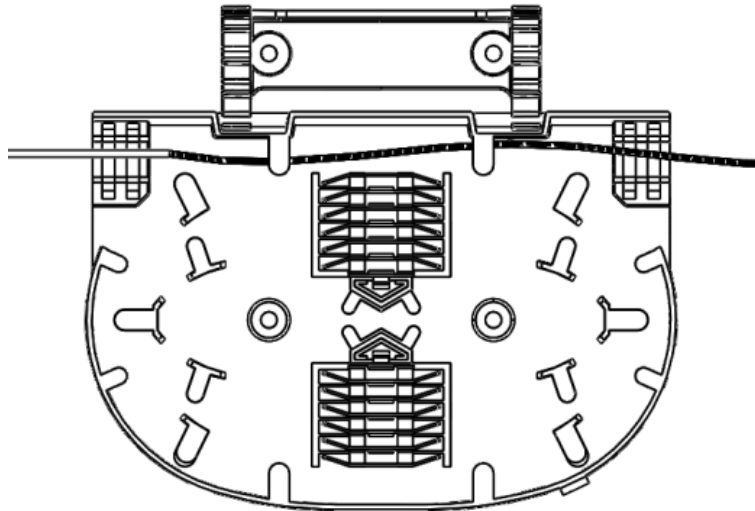

Figure 19
- 1.5.5 Open the jacket or tube and clean the fibers (Fig. 19);